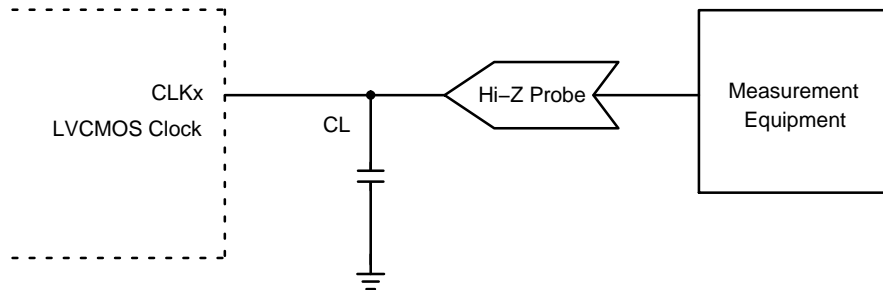

Figure 5. LVC MOS Parameter Measurement
4. Measurement taken with single ended clock outputs terminated with test load capacitance of 5 pF and 15 pF. See Figure 5. Specification for LVTTTL are valid for the $V_{DD} 3.3V$ only.
6. Measurement taken with single ended clock outputs terminated with test load capacitance of 5 pF and 15 pF. See Figure 5. Specification for LVTTTL are valid for the V_{DD} 3.3 V only.